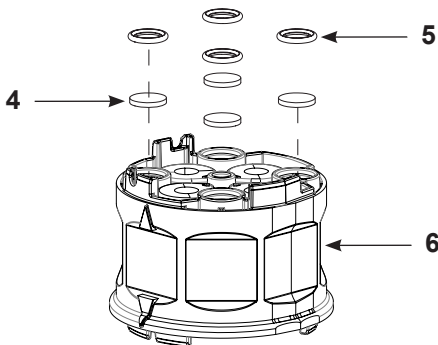

Figure 23 Assemble the Pinch Valve Housing
NOTE: Any time the pump is disassembled, the Y block gasket (item 10 in Figure 23) must be replaced.
2. See Figure 23. Assemble filter discs (4) and O-rings (5) into pinch valve chamber block (6).